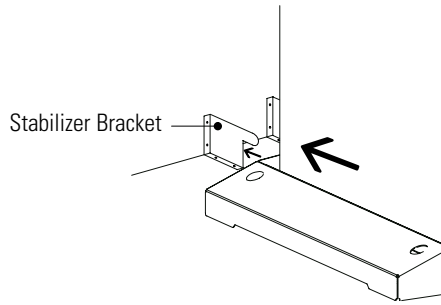

Figure 8. Stabilizer Bracket Installation
As shown in Figure 8, each bracket has holes that enable it to be attached by screws to either the wall or the floor (or both) behind the intended cabinet installation. The brackets are not attached to the cabinet base itself. Install the brackets as follows.
2. Using the proper type of customer-supplied screws for the intended mounting surface, attach each bracket as shown in Figure 8. All screws must be driven into structural material such as wall studs.